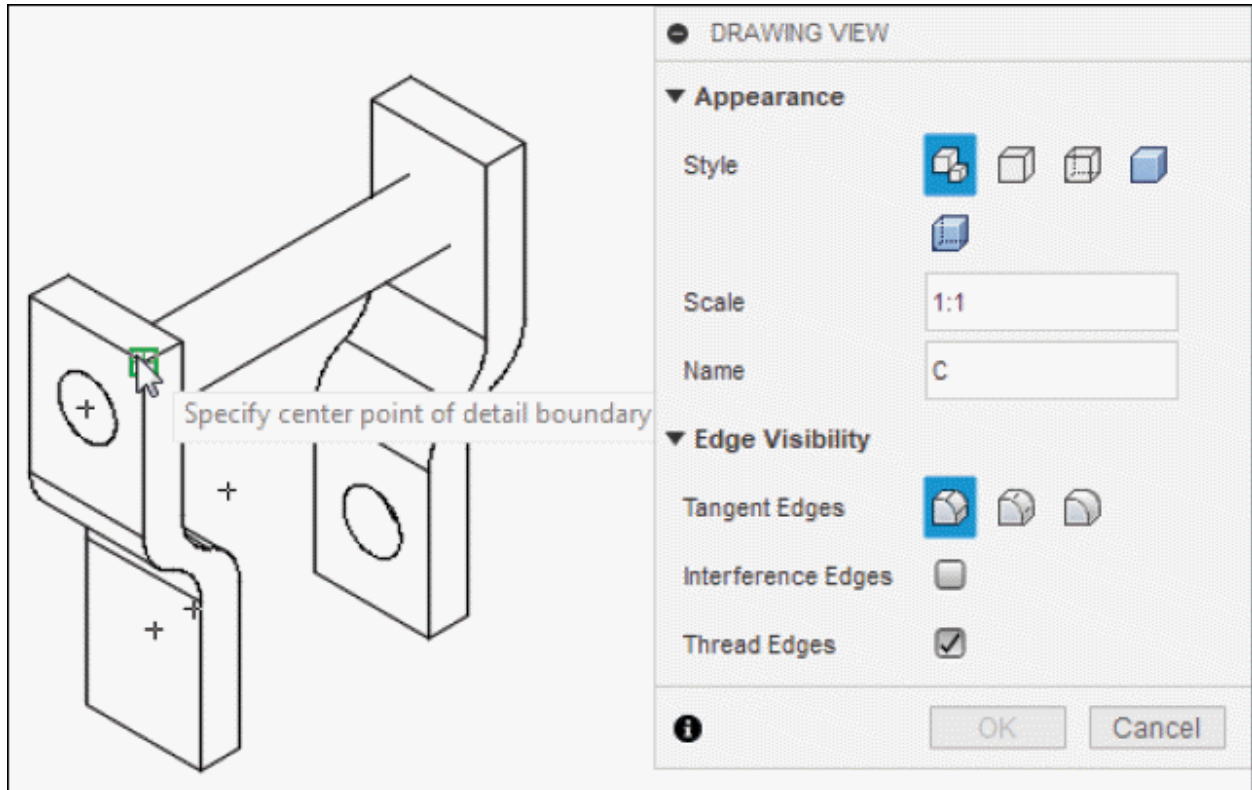

Figure-20. Specifying center point for boundary
- Click at desired location to specify the center point for boundaries of detail view; refer to Figure-20.